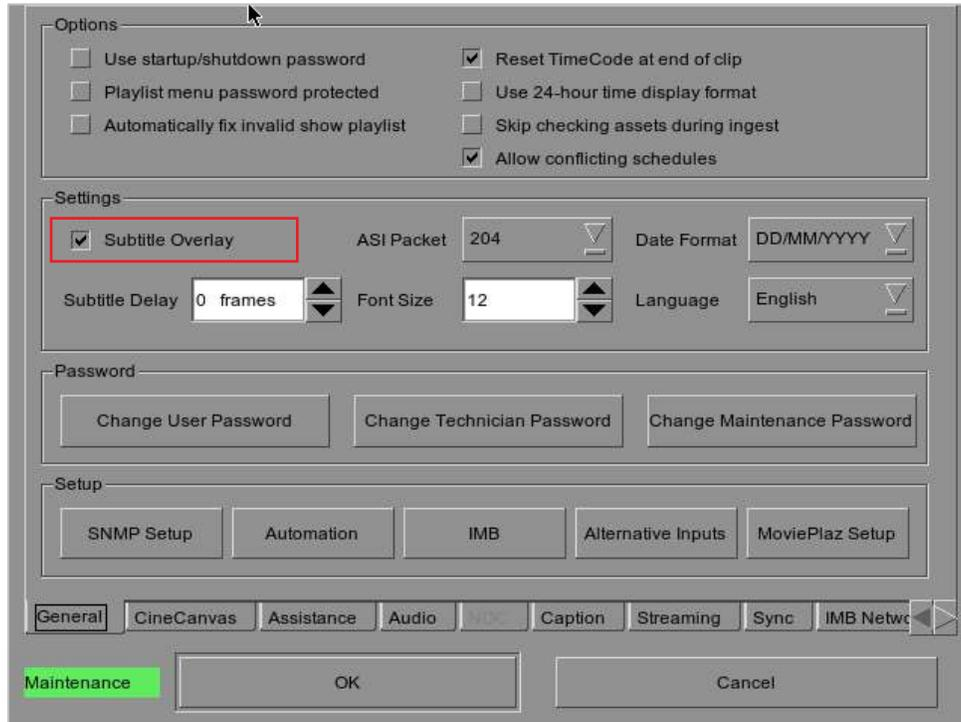

Figure 39 Subtitle overlay settings.
5. Check the **[Subtitle Overlay]** checkbox (refer to Figure 39).